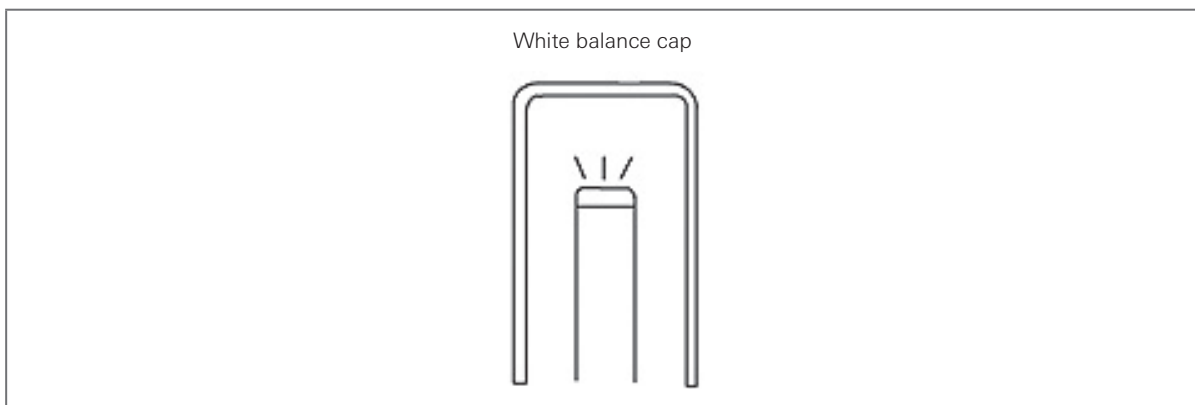

Figure 4.3
3. Insert the distal end of the endoscope into the white balance cap as shown in Figure 4.3. Hold the white balance cap and endoscope steady to avoid washing out of the monitor image.